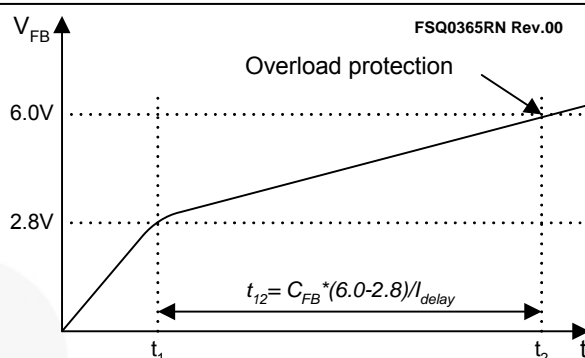

Figure 24. Overload Protection
4.1 Overload Protection (OLP): Overload is defined as the load current exceeding its normal level due to an unexpected abnormal event. In this situation, the protection circuit should trigger to protect the SMPS. However, even when the SMPS is in the normal operation, the overload protection circuit can be triggered during load transition. To avoid this undesired operation, the overload protection circuit is designed to trigger only after a specified time to determine whether it is a transient situation or a true overload situation. Because of the pulse-by-pulse current limit capability, the maximum peak current through the SenseFET is limited, and therefore the maximum input power is restricted with a given input voltage. If the output consumes more than this maximum power, the output voltage (V_O) decreases below the set voltage. This reduces the current through the opto-coupler LED, which also reduces the opto-coupler transistor current, thus increasing the feedback voltage (V_{FB}). If V_{FB} exceeds 2.8V, D1 is blocked and the 5 μ A current source starts to charge CB slowly up to V_{CC} . In this condition, V_{FB} continues increasing until it reaches 6V, when the switching operation is terminated, as shown in Figure 24. The delay for shutdown is the time required to charge CB from 2.8V to 6V with 5 μ A. A 20 ~ 50ms delay is typical for most applications.